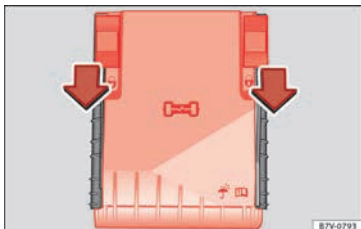

Fig. 61 In the engine compartment: fuse box cover
- Move the attachment tabs forwards, in the direction indicated by the arrow to release the fuse box cover » **Fig. 61**.